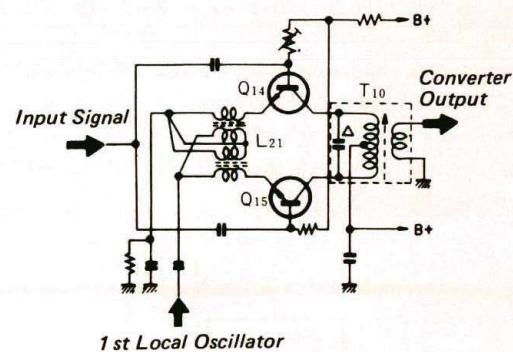

Fig. 1.
2. The 1st Frequency Converter Circuit (See Fig. 1)